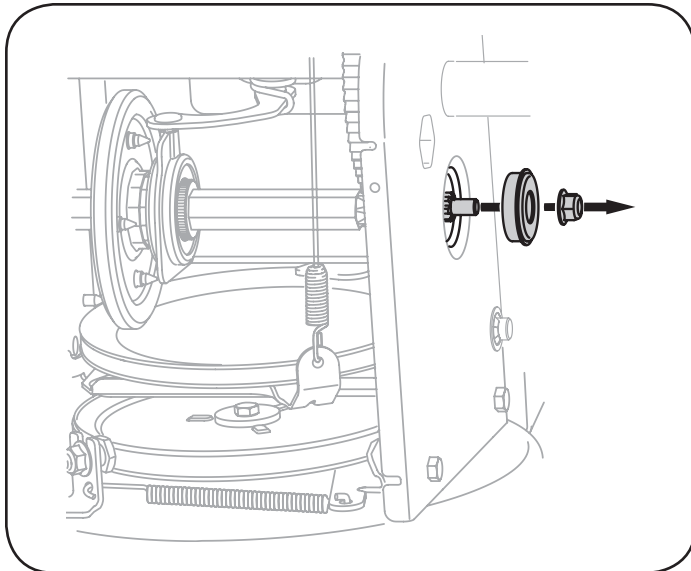

Figure 73
- Carefully remove the hex nut and washer which secures the hex shaft to the snow thrower frame and lightly tap the shaft's end to dislodge the ball bearing from the right side of the frame. See Figure 73.